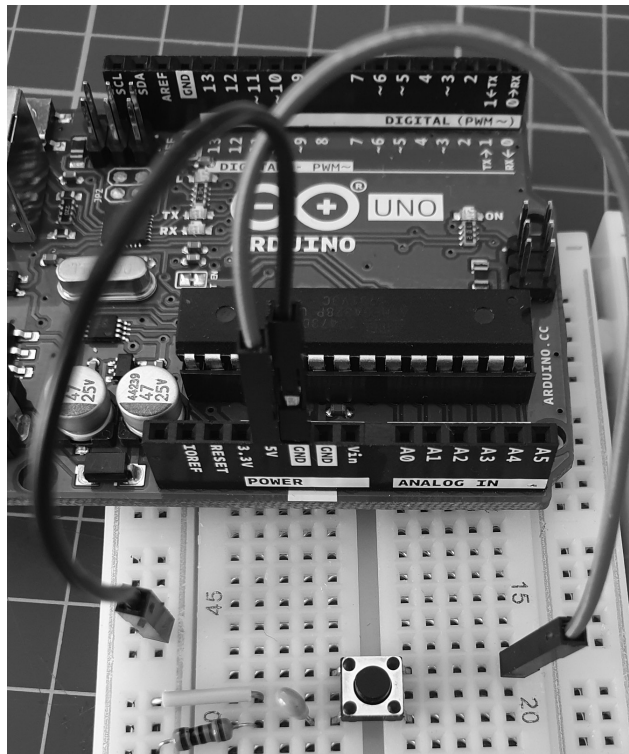

Figure 4-22: The 5 V (red) and GND (black) wires
3. Connect one wire from the Arduino 5 V pin to the upper-right row for the button on the breadboard. Connect another wire from the Arduino GND pin to the same vertical row that connects to the left-hand sides of the wire link and the resistor. This is shown in Figure 4-22.